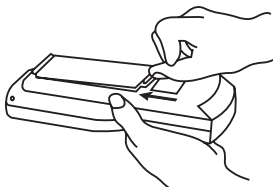

Figure 2-2. Removing the battery compartment cover.
1. Remove the battery compartment cover, located on the back of the instrument. See Figure 2-2.